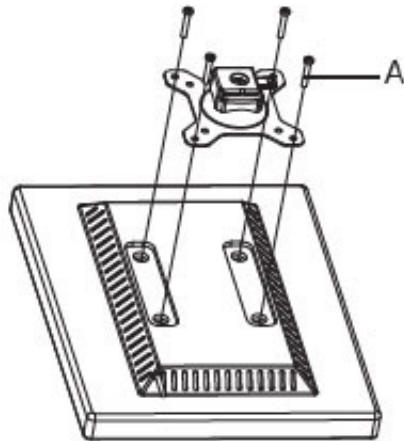

Figure 3A - Flat Back Display Surface
1. For Flat Back display surface install **M4x12 Bolt (A)** through the faceplate into the display's mounting holes, see **Figure 3A**.